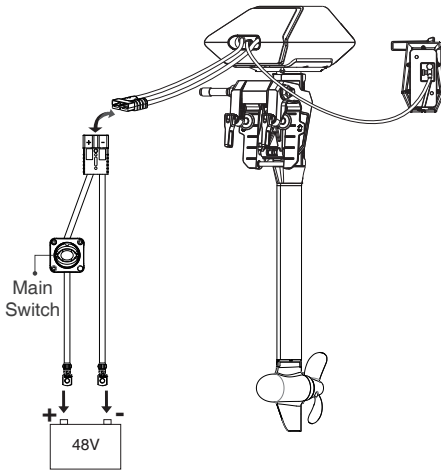
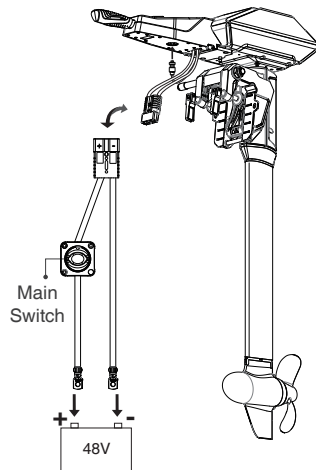

Figure 5-14
Figure 5-15
- Step2:** Connect NAVY outboard and Remote Control/Tiller Handle with a communication cable. Please refer to Figure 5-14 or Figure 5-15.